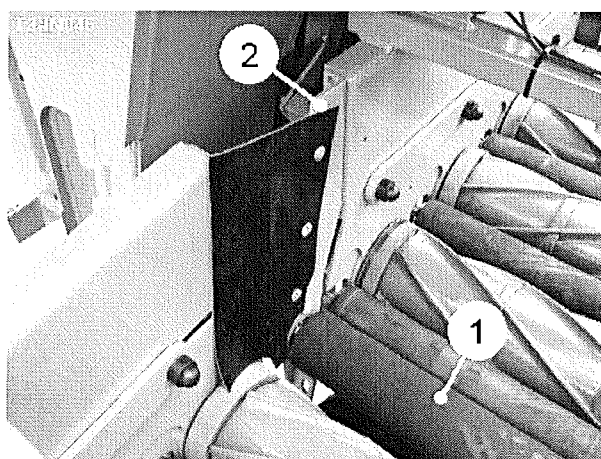

Fig 16
The height of the transfer roller (item 1, fig 16) can be adjusted by repositioning the roller side plates (item 2, fig 16) on the 1st Omega frame.